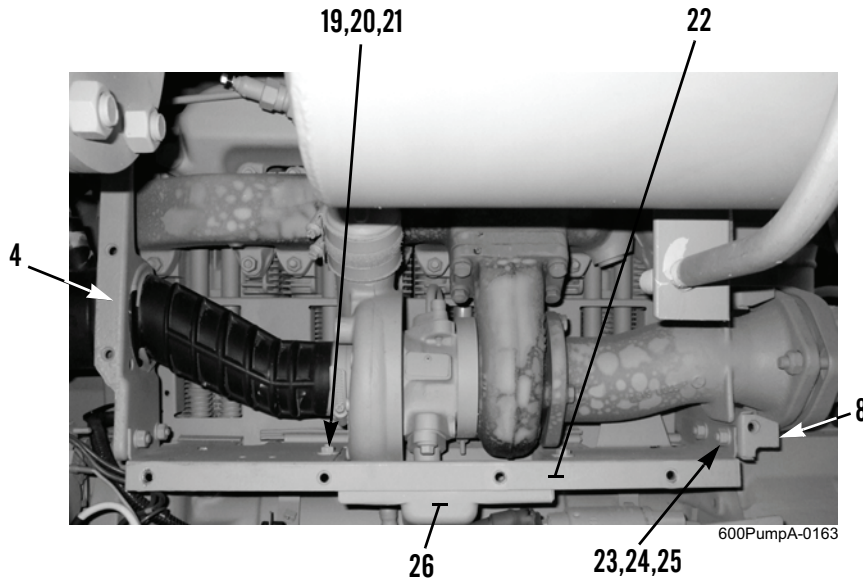

Figure 4. Lower Left Cooling Air Guide Plate.
2. Remove two nuts (Figure 4, Item 19), bolts (Figure 4, Item 20), four washers (Figure 4, Item 21), and cap (Figure 4, Item 26) from lower left cooling air guide plate (Figure 4, Item 22).
3. Remove four bolts (Figure 4, Item 23), nuts (Figure 4, Item 24), eight washers (Figure 4, Item 25), and lower left cooling air guide plate (Figure 4, Item 22) from front and rear air duct walls (Figure 4, Items 4 and 8).
1. Install lower left cooling air guide plate (Figure 4, Item 22) on front and rear air duct walls (Figure 4, Items 4 and 8) with eight washers (Figure 4, Item 25), four bolts (Figure 4, Item 23), and nuts (Figure 4, Item 24).
2. Install cap (Figure 4, Item 26) on lower left cooling air guide plate (Figure 4, Item 22) with four washers (Figure 4, Item 21), two bolts (Figure 4, Item 20), and nuts (Figure 4, Item 19).